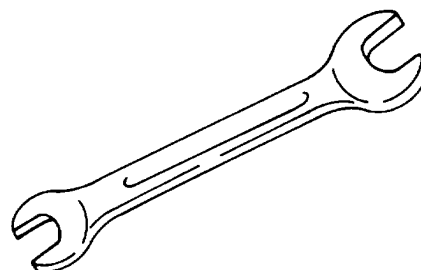
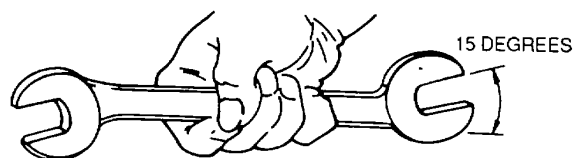

Figure 4-20. Open-End Wrench
Figure 4-21. Open-End Wrench Jaw Offset
(1) *Open-end wrenches.* Open-end wrenches have two parallel jaws at each end of a bar, as shown in figure 4-20. The jaws of an open-end wrench are usually machined 15 degrees from parallel to the centerline of the wrench, as shown in figure 4-21. The two ends of each wrench fit consecutively-sized nuts such as 3/8 and 7/16-inch, 1/2 and 9/16 inch, and so on.